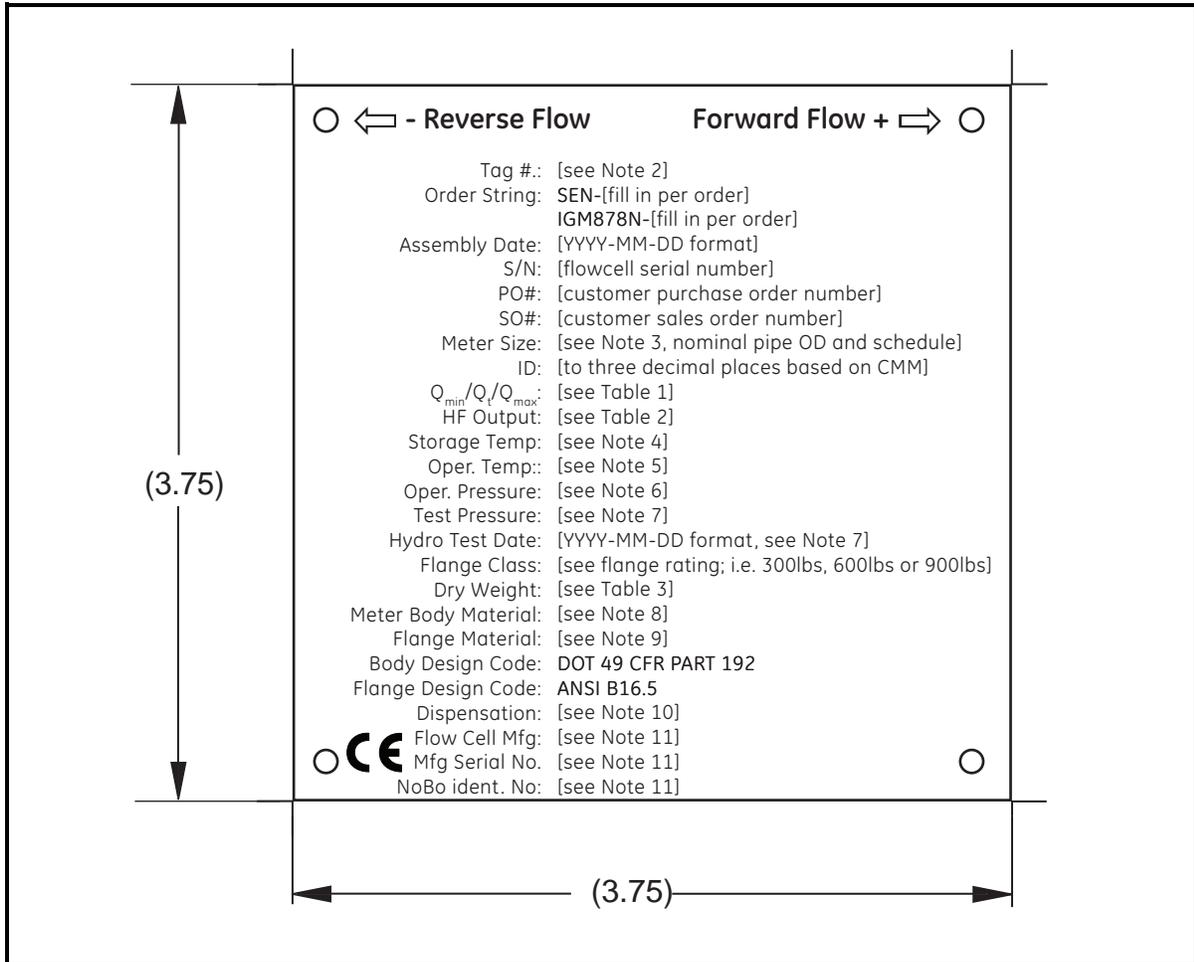

Figure 1: Specification Tag (ref. dwg #442-959B)
3. Verify the tag on the meter reads all of the correct information. Ensure that the tag is in the correct format (reference Figure 1 below and Figure 2 on page 3).